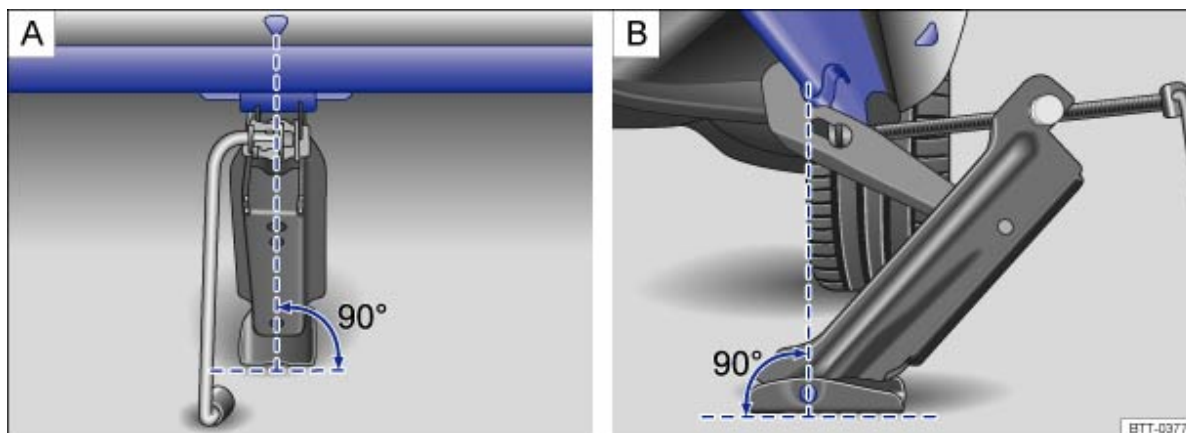

Fig. 231 Jack at the rear on the left-side of the vehicle
- Fit the jack only at the points described. The jack claw must grip the vertical rib under the sill securely → Fig. 231 .